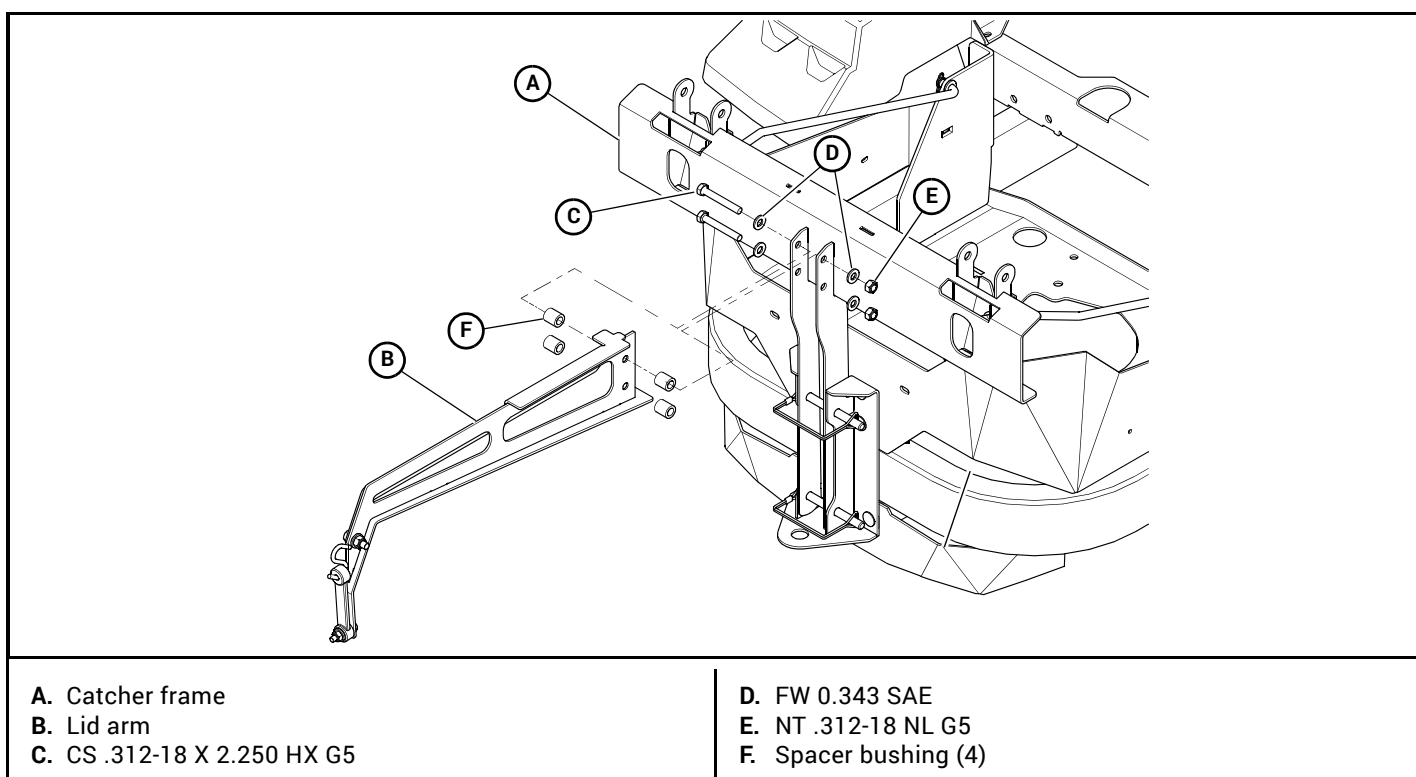

Figure 3-5
10. Attach the lid arm with the hardware provided. Figure 3-5